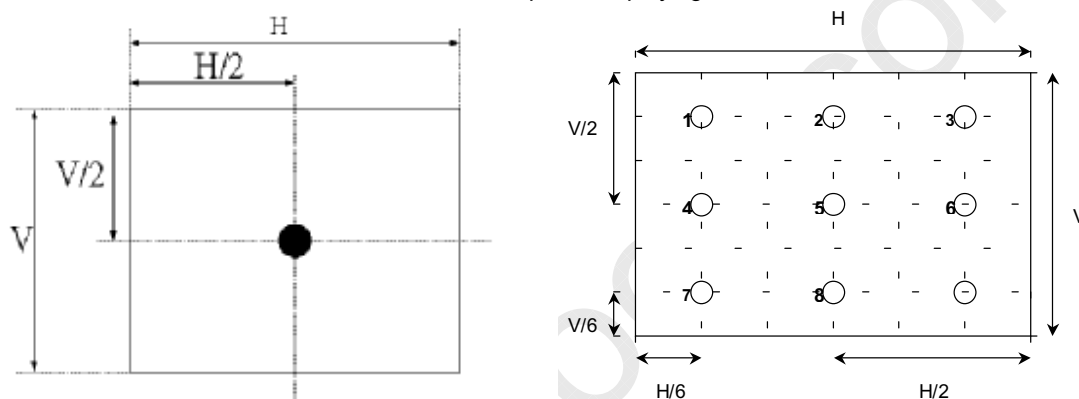

Fig.4-2 Optical measurement point
2. Surface luminance is luminance value at point 1 across the LCD surface 50cm from the surface with all pixels displaying white. From more information see FIG 4-2. When  $V_{DDB} = 24V$ ,  $I_{DDB} = \text{TBD}$ .